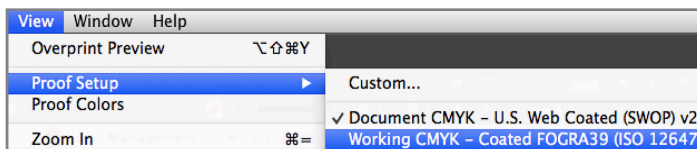

Figure 45
3. Next (also under the View menu), select Proof Setup, and hold down your mouse to display the screen shown in Figure 45. The document's color space (RGB or CMYK) can be set at the time you create the document. If you don't set it, InDesign will use the default color spaces set in the Color Settings dialog under the View Menu or synchronized using Bridge.
When you click on your desired proofing profile and release, Proof Colors (the next line in the View Menu below Proof Setup, also shown in Figure 45) will have a check mark in front of the line, indicating that proofing is On and displaying an on-screen preview of how the document will print. Toggle the preview on and off to see how your file's color will change.